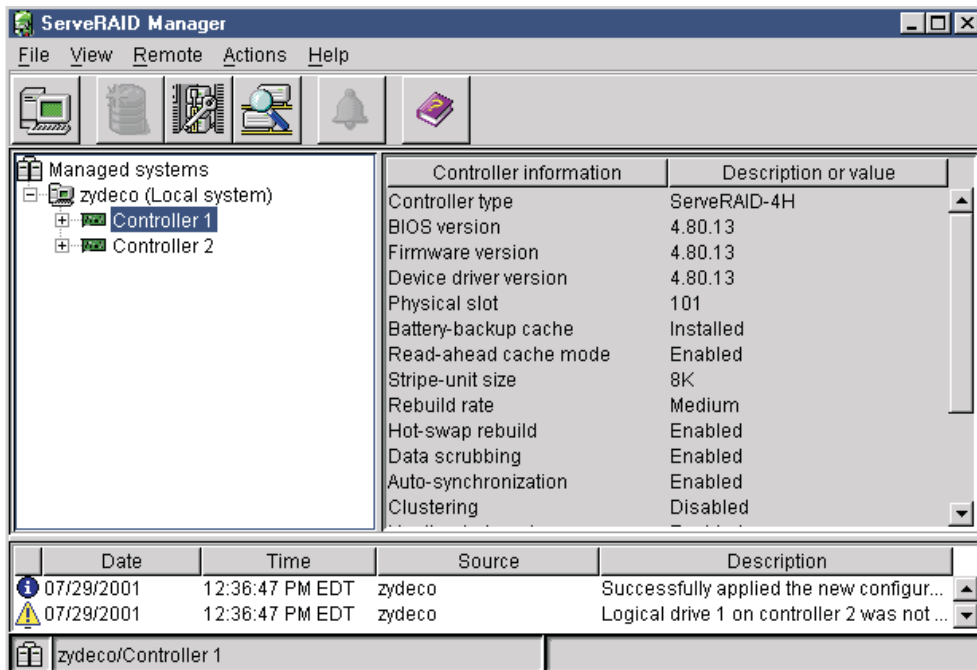

Figure 28. ServeRAID Manager window
2. The ServeRAID Manager program opens, and a window similar to that shown in Figure 28 appears.
4. The ServeRAID Manager program opens, and a window similar to that shown in Figure 28 appears.